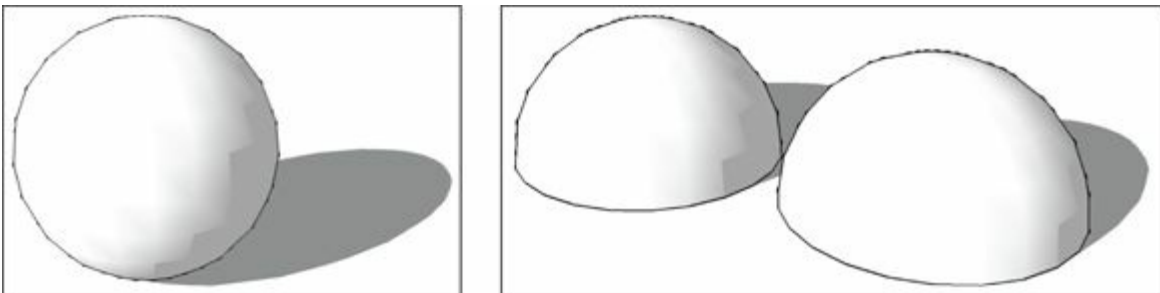

FIGURE 9-3: Often a subdivided part is faster and cleaner to print than a part printed all at once.
- » **Consider breaking your object into multiple prints.** The sphere in Figure 9-3 could be printed using support material, but it will print faster and with less cleanup if you split it in half and attach it back together afterwards. Later in the chapter, you learn about systems to make the parts lock together quickly.